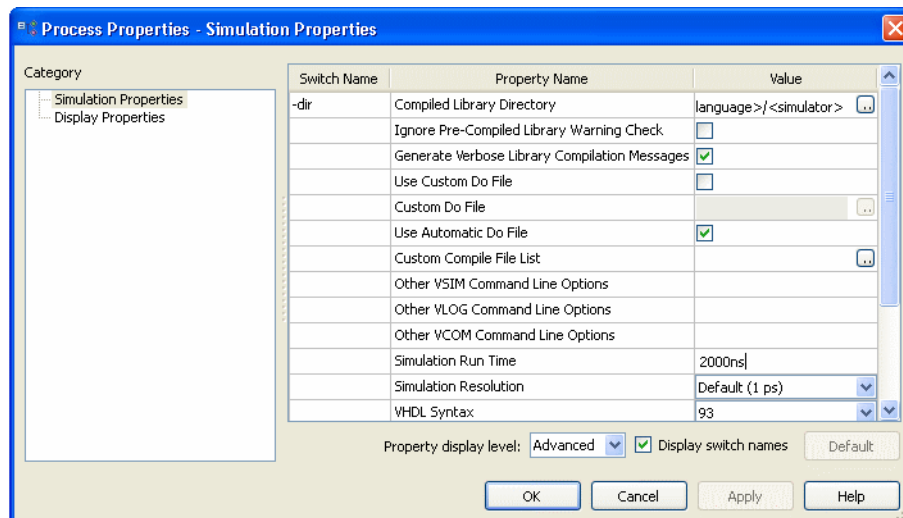

Figure 5-3: Behavioral Simulation Process Properties
- In the Process Properties dialog box (Figure 5-3), set the Property display level to **Advanced**.